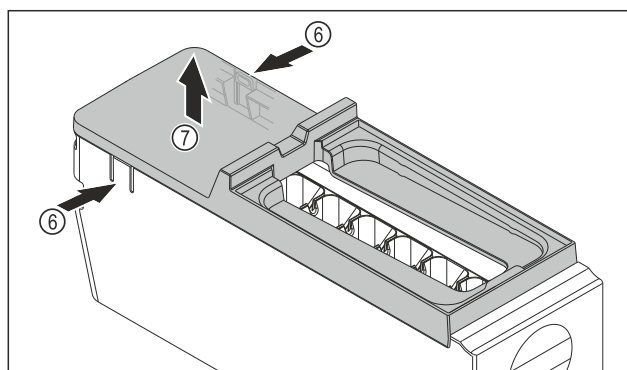

Fig. 92
- Removing the cover of the EasyTwist-Ice body: With one hand, press the tabs Fig. 92 (6) on both sides of the EasyTwist-Ice body.
- With the other hand, remove the cover Fig. 92 (7) upward.